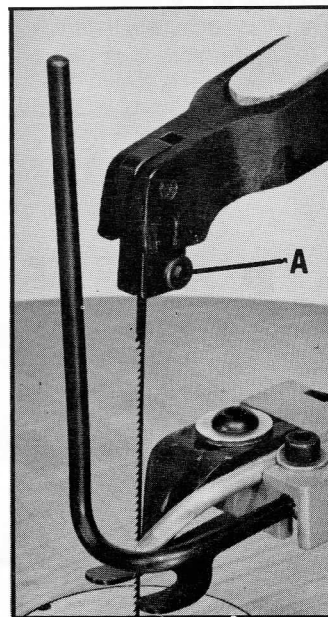
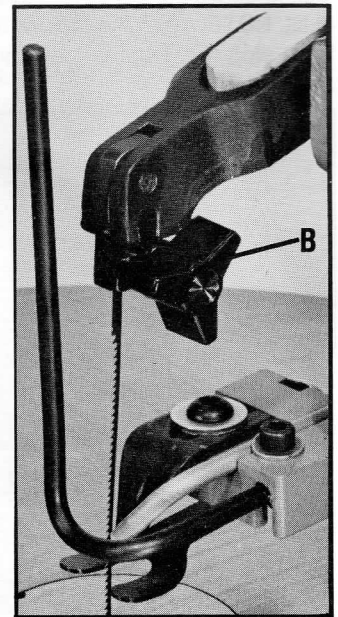

Fig. 33
Fig. 34
A quick change upper blade holder screw is supplied with your saw that enables you to save time when making numerous inside cuts in a workpiece. Remove the standard blade holder screw (A) Fig. 33, and replace it with the quick change blade holder screw (B) Fig. 34. NOTE: when the quick change upper blade holder screw is used the capacity under the holddown spring will be less than the 2" maximum of the saw.